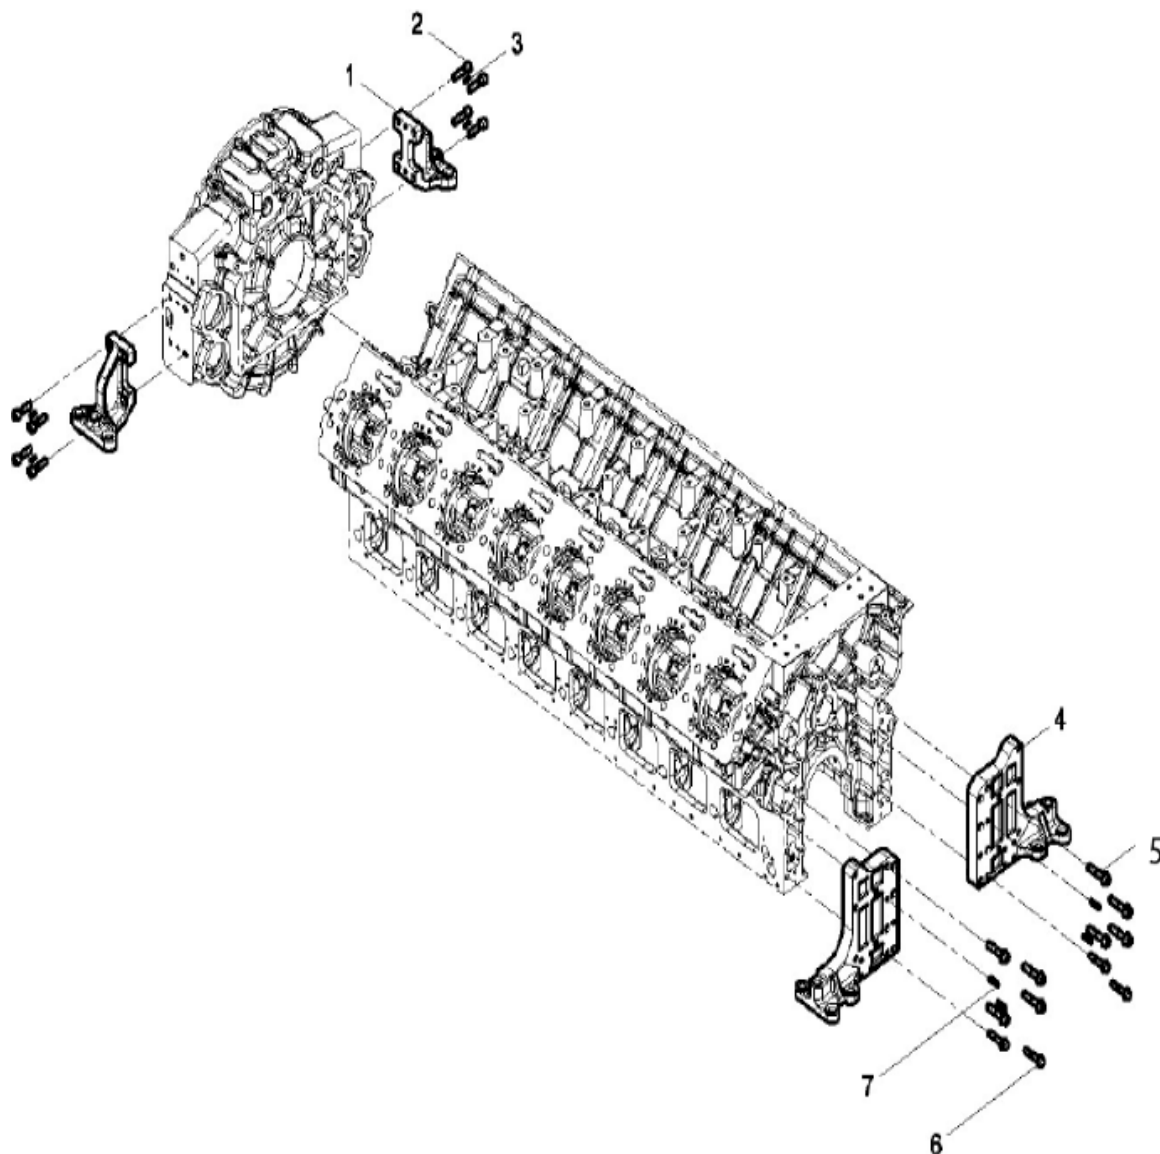

Figure 8. Engine Bracket Assembly
1. Loosen and remove bolts (Figure 8, Items 2, 5 and 6).
2. Remove engine mounts (Figure 8, Item 1 and 5).
3. Insert and tighten bolts (Figure 8, Items 2, 5 and 6).